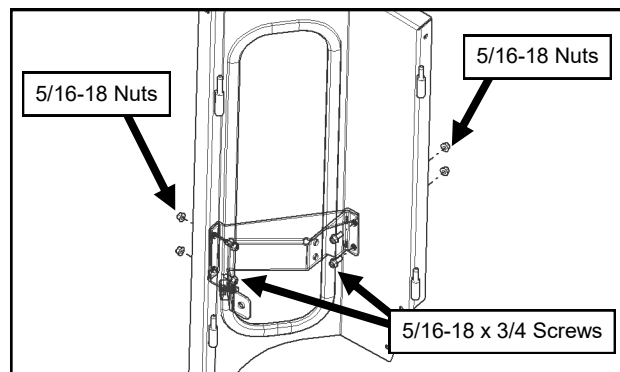

Fig. 5.1 (Pre-Assemble Rear Light Mount to Rear Leg)
- 5.1 Away from the tractor, assemble the left Rear Light Mount onto the left Rear Leg Assembly. See Figure 5.1. Center the Mount in the slots as much as possible and tighten the hardware.